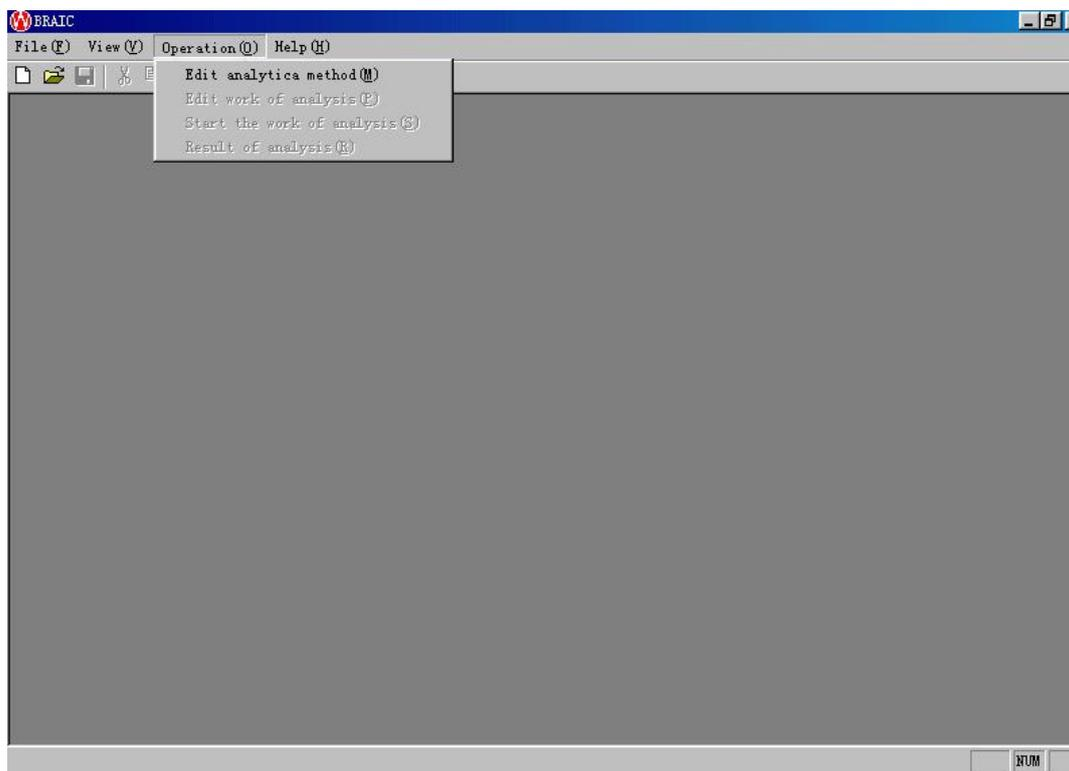
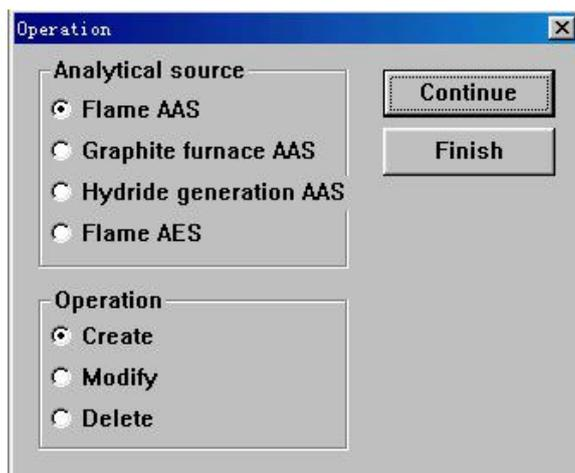

Fig. 4-1
Fig. 4-2
Connect the main unit of the spectrophotometer with the PC first. And then switch on the main unit and the computer respectively. If the auto-sampler is used, switch on if before entering into the software. Window 98 or XP system will be automatically entered after powering the computer. Double click shortcut mode “BRAIC” on the Window 98 or XP desktop to enter the main page of the software as shown in figure 4-1.
Click “Operation (O)” to appear the menu as shown in Fig.4-1, then click “Edit Analytical Method (M)”, the menu shown in Fig. 4-2 will appear on the screen.
(1) Analytical light source: There are four methods available for the selection: flame AAS, graphite furnace AAS, hydride generation AAS and flame atomic emission AAS.
(2) Operation: You can create a new analysis method and modify or delete the old one. Directly click the analytical method shown in Fig.4-2 for the selection according to the analytical requirement of users.